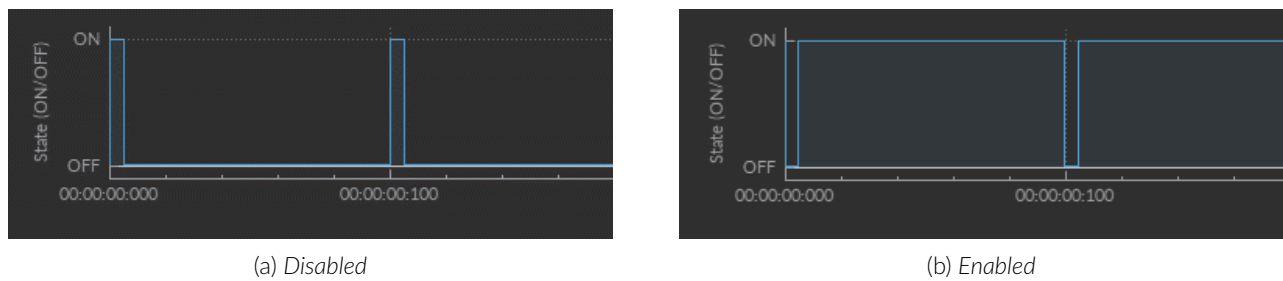

Figure 10.26: *Inverted Output*
4. The **Inverted Output** checkbox (Fig. 10.24, 4), when enabled, will convert every 0 to 1 and 1 to 0, such as in Fig. 10.26.